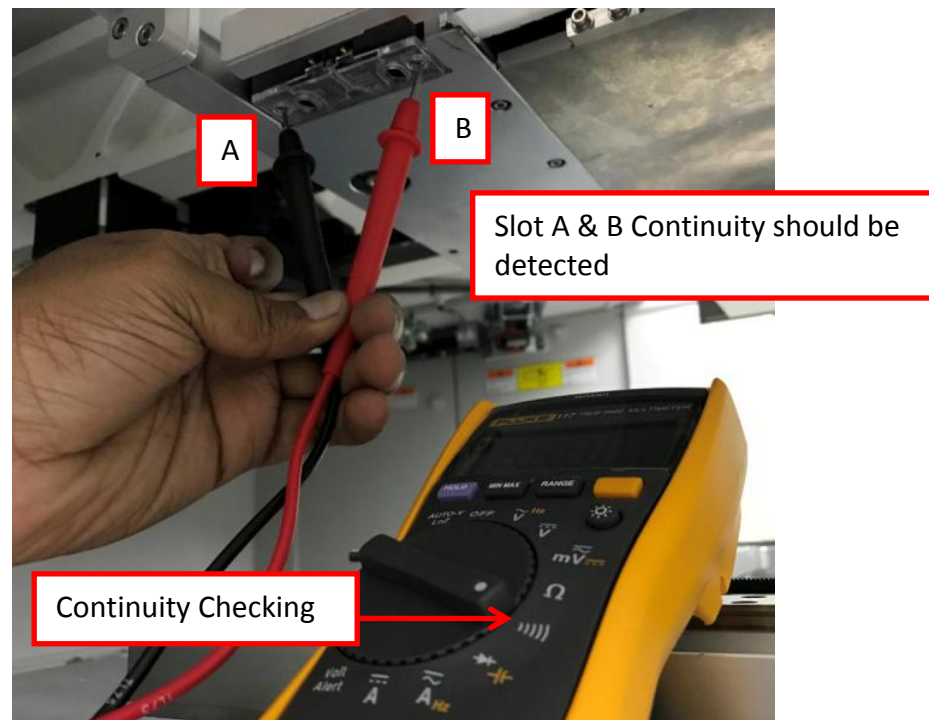

Figure 21 Continuity Checking (Left & Right Schmersal Switch)
- iv. Probe at Slot A and Slot B (Figure 21) again where Continuity should present upon inner barrier closing